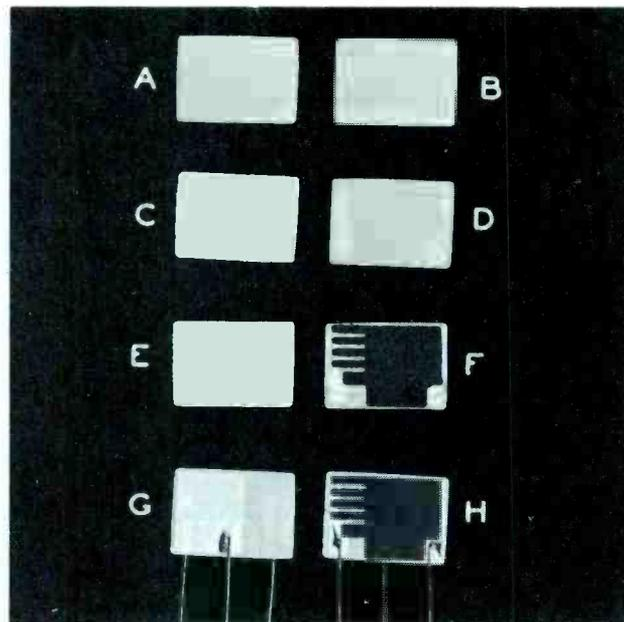

Figure 10. Construction of a Printed Circuit Vertical Integrator.
In the design of previously mentioned printed circuits, it was possible to point out many of the resistive and capacitive elements corresponding to the components in the conventional circuit. Such is not the case of the integrator plate in Figure 10, which is shown during various stages of manufacture. At (A) and (B) of Figure 10 are shown the front and back sides of the base plate. (C) shows the back side of the plate after a large silver plate has been added. This plate is connected to ground in the integrator circuit. The front side of the plate is shown at (D) after two small plates have been added. These represent the input and output terminals of the circuit. (E) and (F) show the front and back sides of the unit after the resistive element has been added. Note that a resistive element is used only on the front side. In the conventional circuit employing standard components, three resistors are used. In the printed circuit shown in Figure 10, however, the technique of designing the circuit to perform the desired function without the use of individual components is used. By referring again to Figure 10F it can be seen that the resistive element